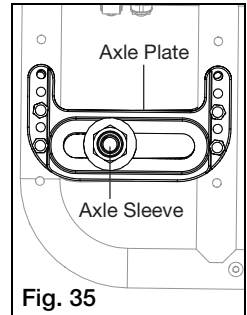

Fig. 35
1. Center of Gravity (Fig. 35)